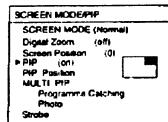

Fig. 37.
- 2 Select "Screen Mode/PIP" with **Δ** or **▽** and press **OK**. The SCREEN MODE/PIP menu appears (see Fig. 37).